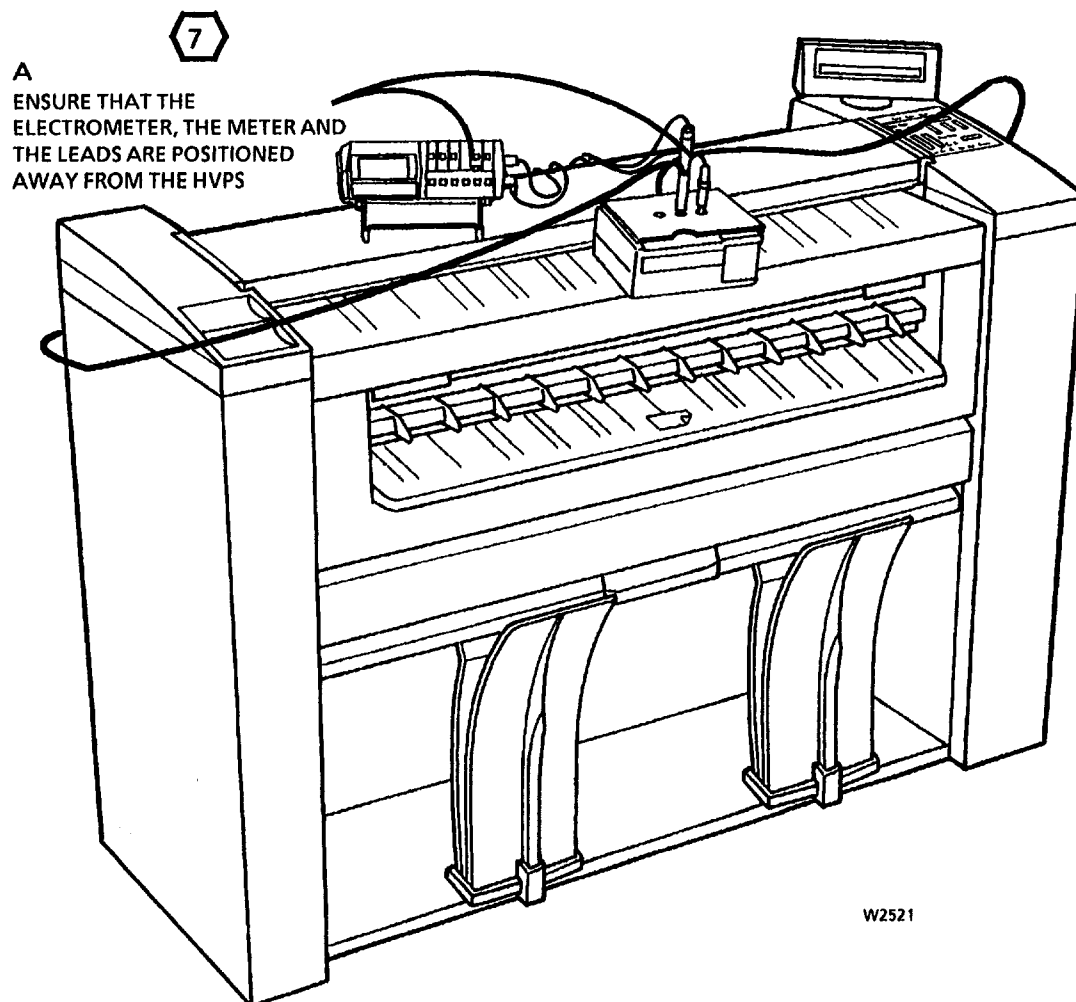

Figure 3. The Correct Position of the Electrometer, Meter and the Leads
8. (Figure 3): The correct position of the electrometer, meter and the leads.
7 **STEP 8 A:** The electrometer, meter and the leads must be positioned away from the HVPS in order to obtain the correct voltage measurement. The meter and electrometer must also be separated as shown in Figure 3. Position the electrometer, meter, and the leads in this way for the remainder of the procedure. Do not connect the meter and the electrometer at this time. The purpose of this illustration is to show the correct position. Attach the components as needed in subsequent steps.
- 9 The Electrometer, meter, and the leads are shown in this position only for clarity. Figure 3 of this procedure shows the correct position when the Electrostatic Series is performed.
- 11 The Electrometer, meter, and the leads are shown in this position only for clarity. Figure 3 of this procedure shows the correct position when the Electrostatic Series is performed.
13 The Electrometer, meter, and the leads are shown in this position only for clarity. Figure 3 of this procedure shows the correct position when the Electrostatic Series is performed.
- 14** Position the DMM and the Electrometer as shown in Step 7, Figure 3. Ensure that the doors are closed.